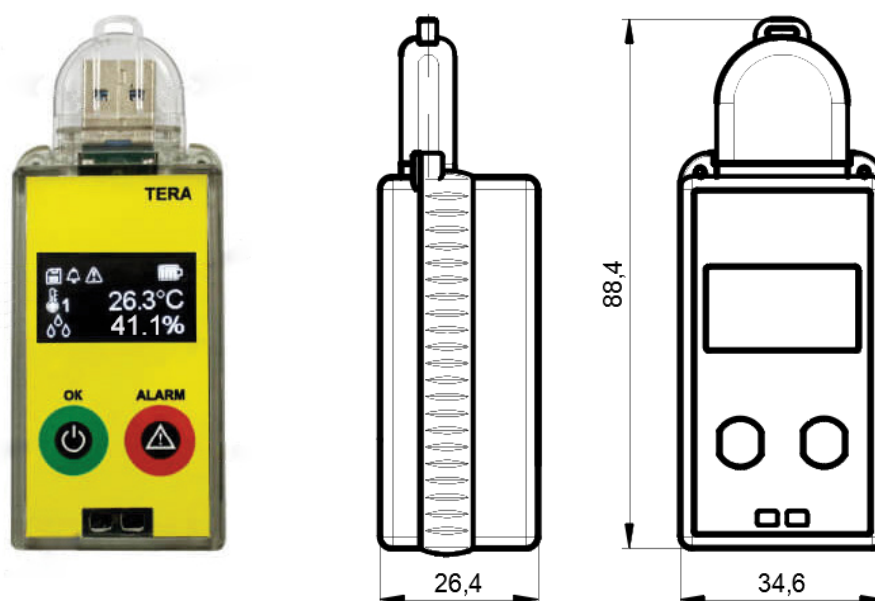

Figure 1. Data Logger's Design.
1.5.1. Data Logger's design is shown in Figure 1.